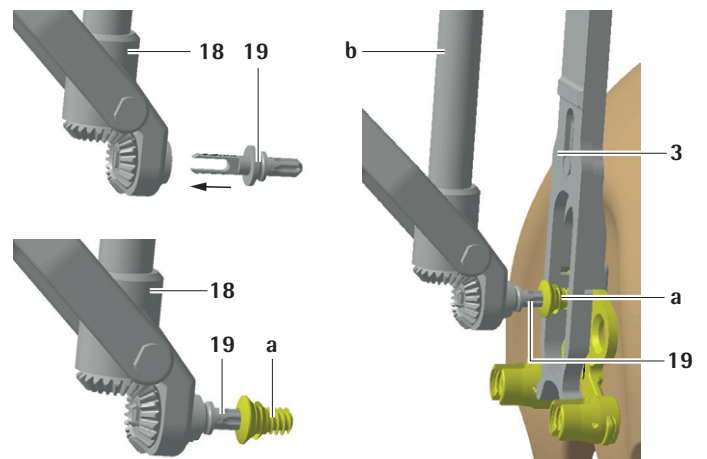

Fig. 10
- ▶ Attach the screwdriver bit **19** (SZ123SU) and the corresponding occipital screw **a** as shown on the left side of the image, see Fig. 10.